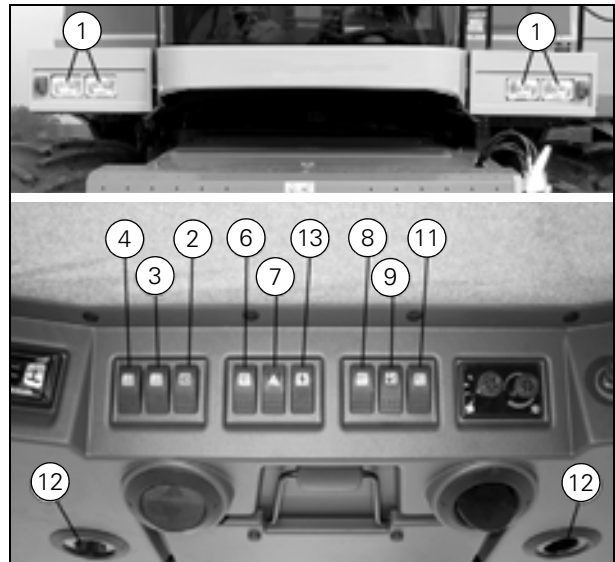
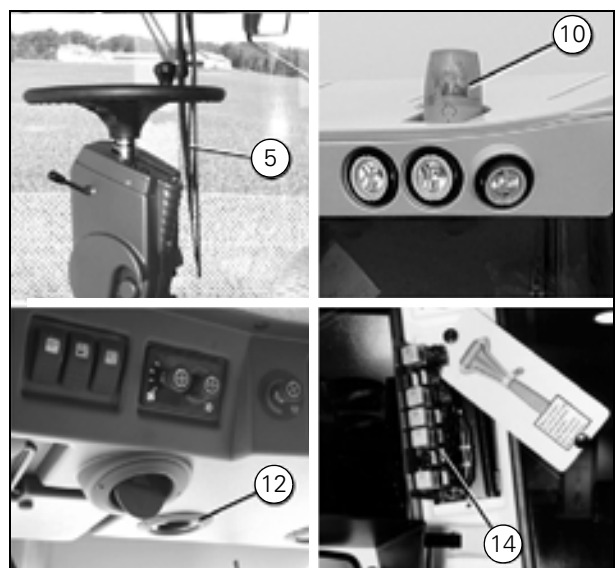

Fig. 23
Fig. 24
\(Fig. 23\) and \(Fig. 24\)
The windscreen wiper (5) \(Fig. 24\) is switched on with the switch (6) \(Fig. 23\).